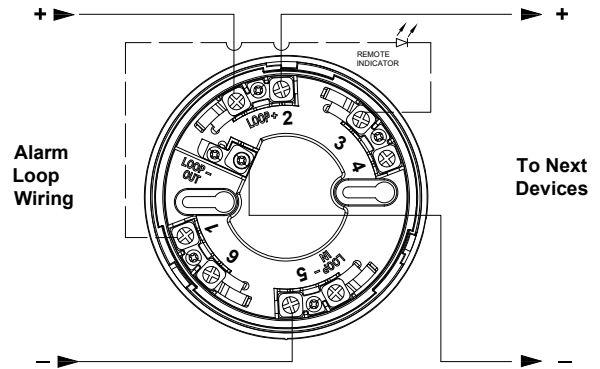

Fig. 1: 682 isolator base wiring connections
2. Connect the conductors to the base terminals as shown in Fig. 1.